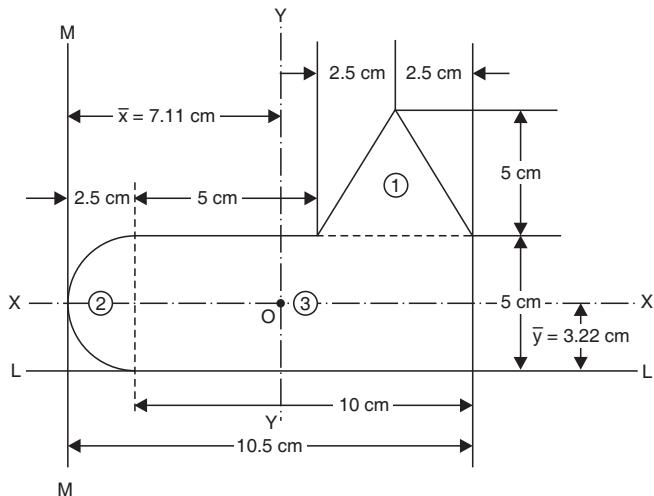

Fig. 7.22
**Example 7.3.** Using the analytical method, determine the centre of gravity of the plane uniform lamina shown in Fig. 7.22.
**Sol.** Refer to Fig. 7.22.